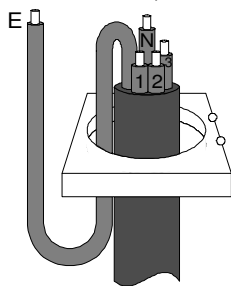

Fig. 1
1. Always ensure the Earth conductor DOES NOT pass through the toroid. If it is unavoidable, the Earth must be routed back through the toroid again and around, as shown in Fig.1.